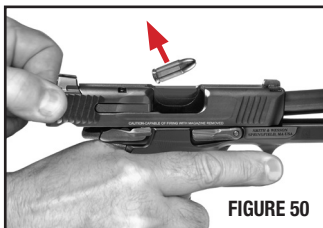

FIGURE 50
**NOTE:** Drawing the slide fully to the rear should allow clearance for the jammed cartridge to fall free and clear of the firearm (FIGURE 50).